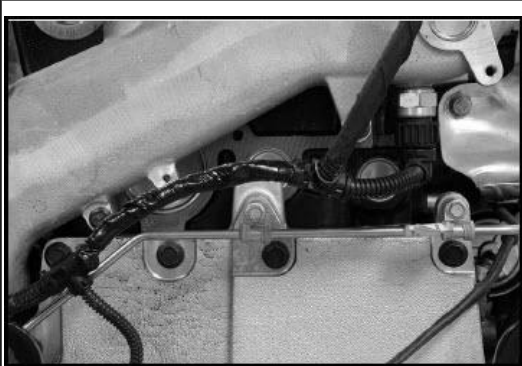

Figure 7: Twist Tube Wrapped with Electrical Tape.
21. Wrap and seal twist tube with electrical tape (*Figure 7*).